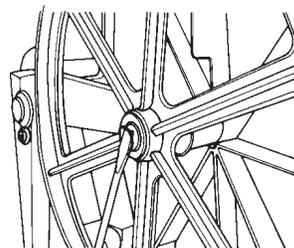

Fig. 1
- a. Use a screwdriver to remove the snap ring, which holds the upper drive wheel to the bandsaw. (See Figure 1.) Save snap ring.